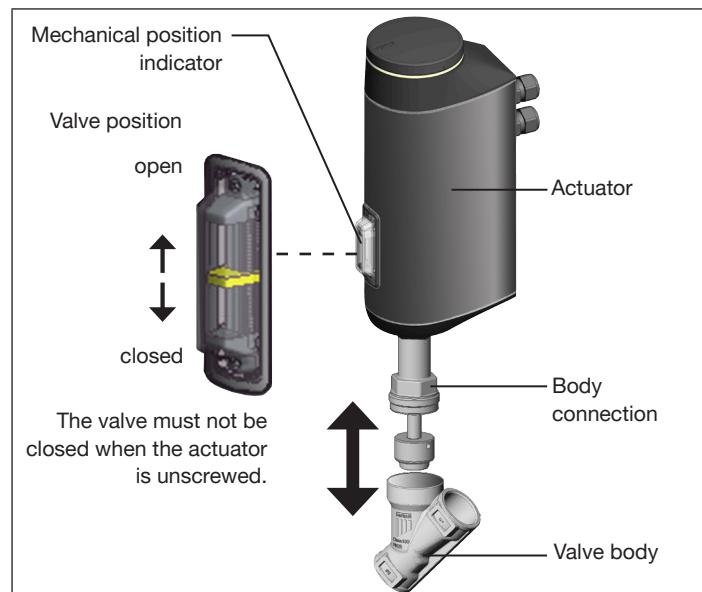

Fig. 8: Installation of electromotive actuator (example angle seat valve)
- Position the external thread on the internal thread of the body connection. See ""Fig. 8: Installation of electromotive actuator \(example angle seat valve\)"".